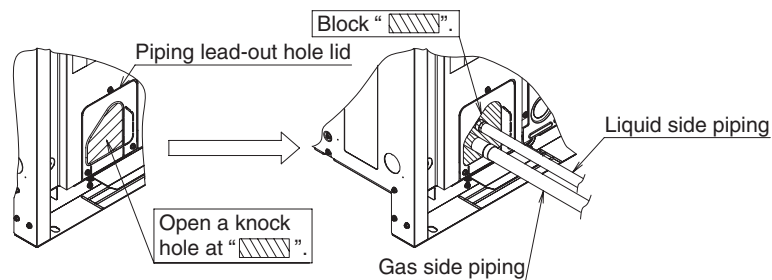

figure 30
- The piping lead-out hole lid should be attached after opening a knock hole. (Refer to figure 30)
- If small animals and the like might enter the unit through the piping lead-out hole, close the hole with blocking material (procured on site) after completion of “1-11. Additional Refrigerant Charge and Check Operation”. (Refer to figure 30)
- After knocking out the holes, we recommend you remove burrs in the knock holes (see figure 30) and paint the edges and areas around the edges using the repair paint.